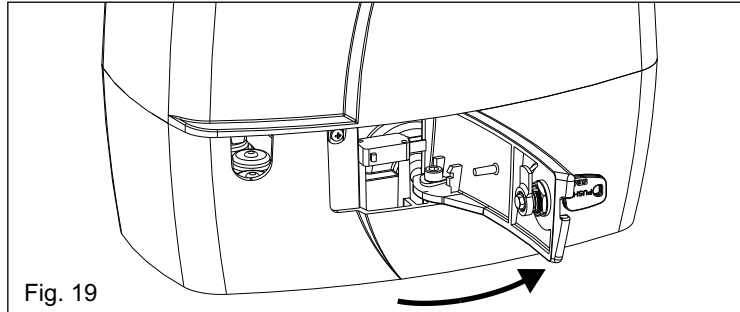

Fig. 19
- Pull the release lever until it stops, about 90° (Fig. 19).